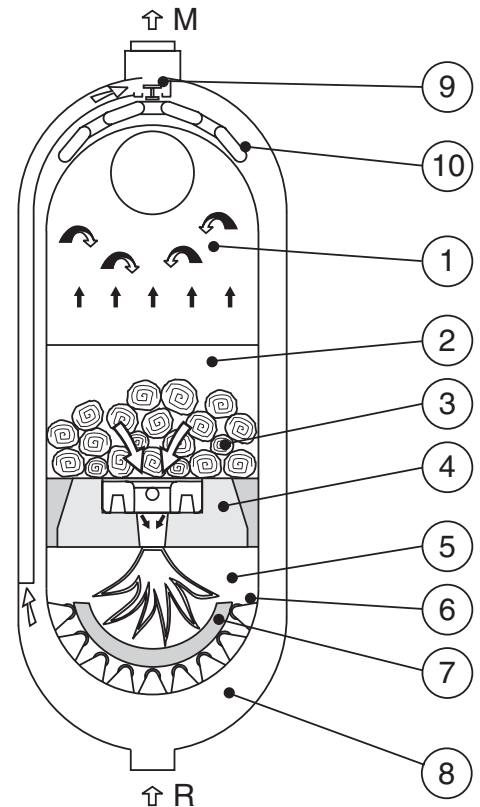

fig. 3
The boiler body is made of two oval elements, one placed inside the other, so as to form a water cavity (fig.3).
We can distinguish the following parts (fig.3):
The solid residues of combustion (ashes), which lie on the high temperature refractory-lined cradle (fig. 3, pos. 7,) will become with time always lighter until they will be dragged by the gas speed and will deposit themselves in the lowest area of the rear smoke chamber, from which they will be removed during the cleaning operation.
The burner is made up of refractory stone (fig. 3, pos. 4). This stone has an oval central opening through which the flame passes.